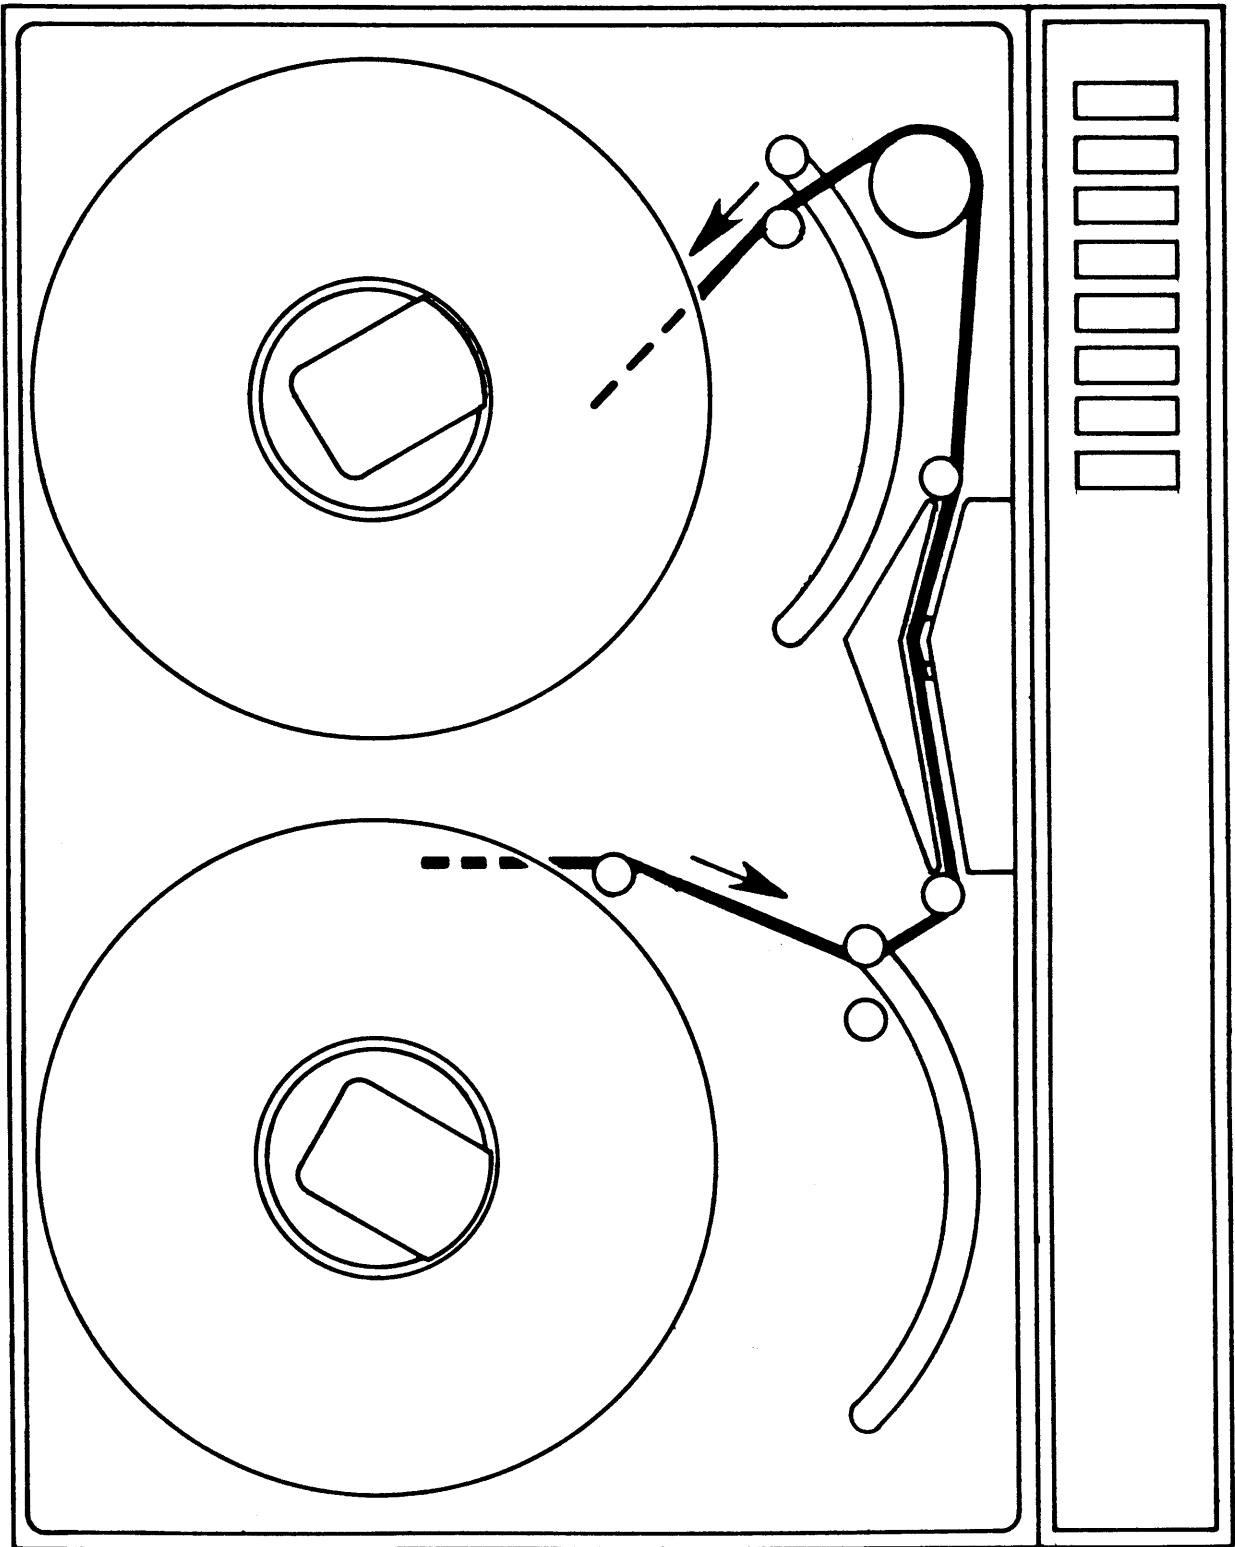

Figure 3-2. Tape-Threading Path
3-6. To load tape, see Figure 3-2 and proceed as follows:
- d. Thread tape along path shown in Figure 3-2. Wrap several turns clockwise